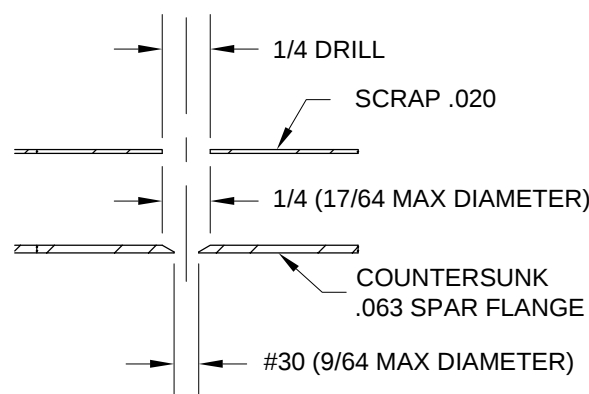
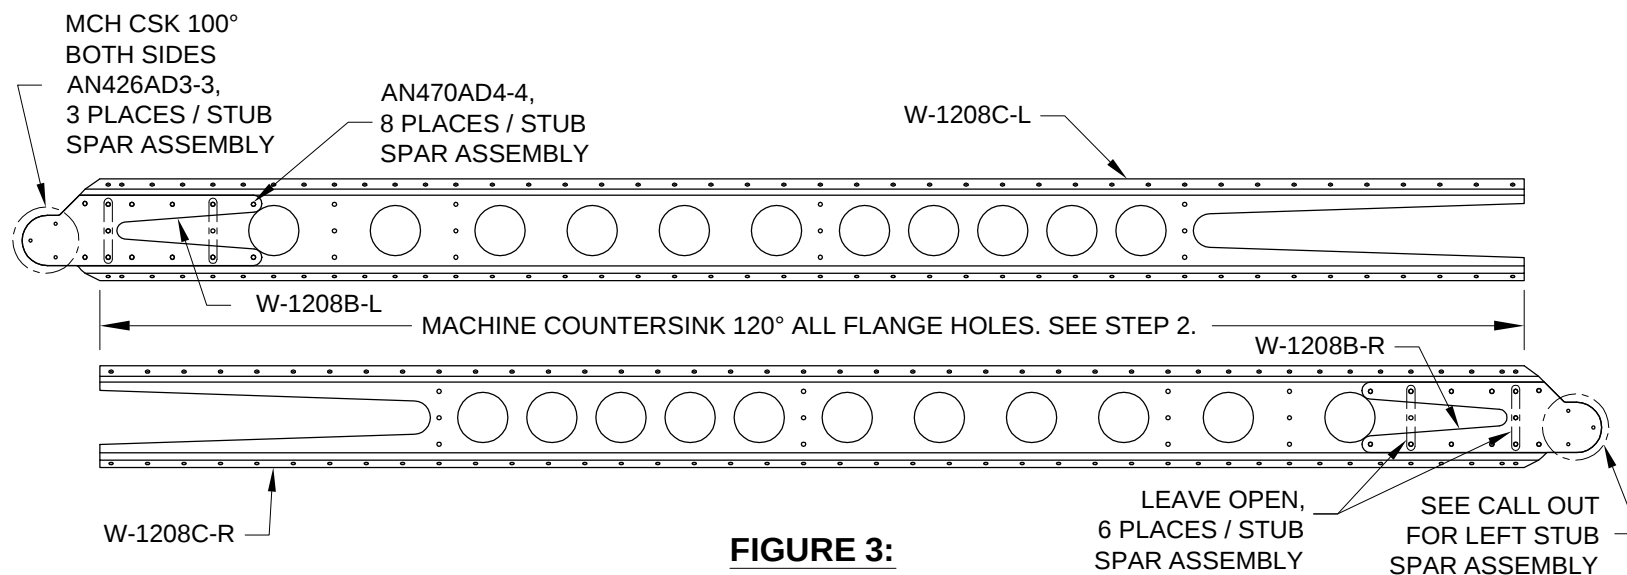

FIGURE 2:
FIGURE 3:
Step 2: Machine countersink 120° the W-1208C-L & -R Stub Spar Channel, per dimensions in Figure 2, on the outer surface of all the holes in both flanges as called out in Figure 3. Drill a 1/4 inch hole in a thin piece of scrap aluminum to make checking the maximum diameter of each countersink easy.
Step 3: Machine countersink 100° the three holes at the inboard end of the Stub Spar Assembly to fit the head of an AN426AD3 rivet as called out in Figure 3.
Step 4: Rivet the Stub Spar Assembly together at the holes called out in Figure 3. When setting the three flush rivets at the inboard end of each Stub Spar Assembly, the goal is to make both the shop head and the manufactured head as flush as possible. Leave open the called out holes that will later correspond to the wing ribs.